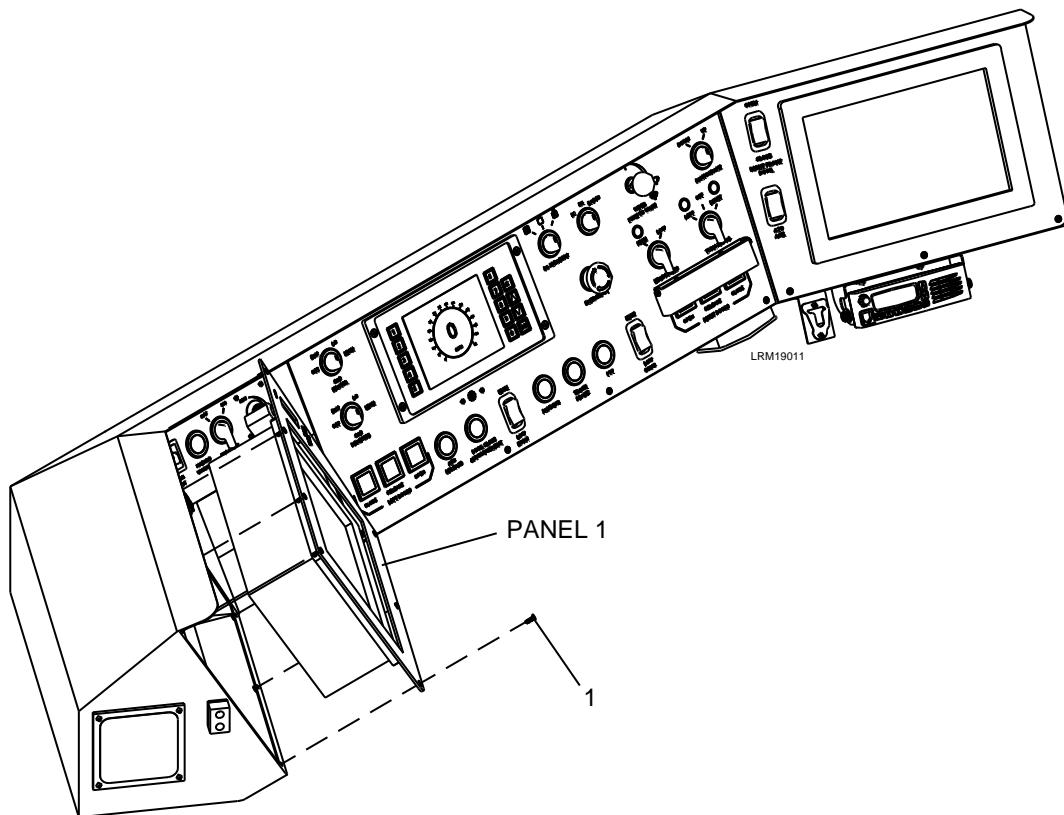

Figure 7-9: Train Operator Display (TOD)
1. Remove the seven #8-32 flat head screws (#1, Figure 7-9) securing the panel to the cab console.